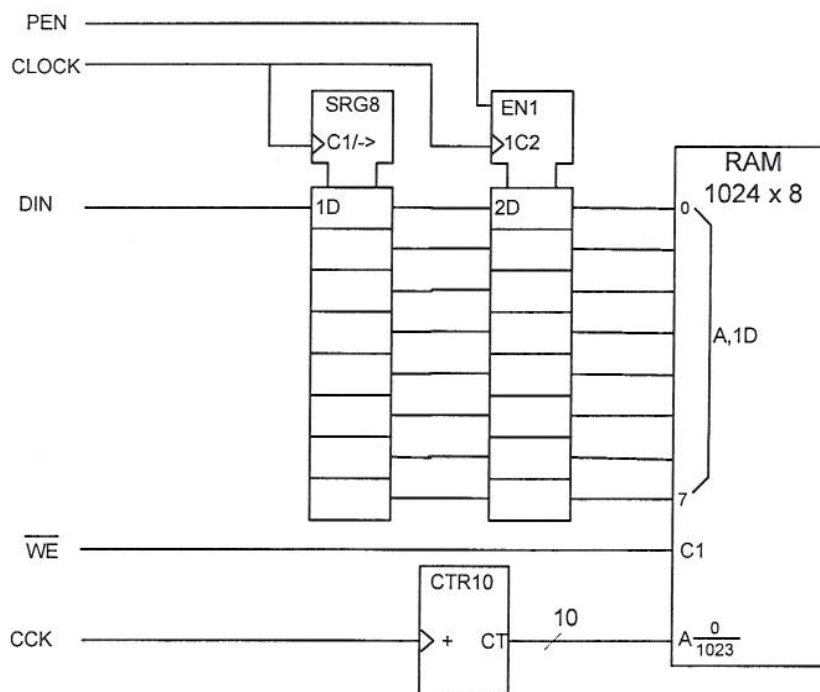

Figure 5.1
5. *Figure 5.1* shows part of the input circuit of a logic analyser. The input signal *DIN* is sampled at 100MHz and eight successive samples are stored in the shift register. The contents of the shift register are then transferred to a holding register and are written into the memory at an address determined by the counter. The counter is then incremented by 1 in preparation for the storage of the next eight input samples.